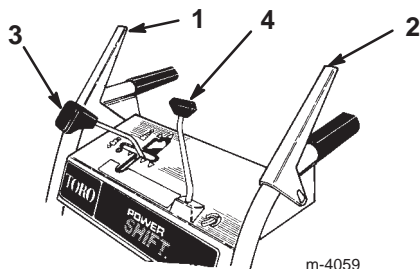

Figure 13
- Auger/Impeller Drive Control Lever** (Fig. 13)—To engage both the auger and impeller, press the lever against the right handgrip. To disengage, release the lever.
- Traction Control Lever** (Fig. 13)—To engage the traction (wheel drive), press the lever against the left handgrip. To stop the traction, release the lever.
- Speed Shift Control** (Fig. 13)—This control has a neutral position, four forward speeds, and two reverse speeds. It also controls the power shifting of the wheels. To select a speed, move the shift control to the desired position.
- Discharge Chute Control** (Fig. 13)—Rotate the discharge chute control clockwise to move the discharge chute to the right; counterclockwise to move the chute to the left.
3. Release the auger/impeller drive control lever and the traction control lever (Fig. 13).
1. Release the traction control lever (Fig. 13).